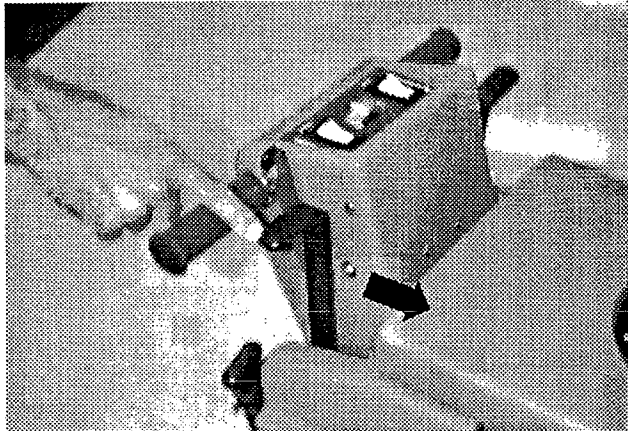

FIG. 14
6. Push solution flow lever slightly forward to activate solution flow. The further the lever is pushed forward the more solution will flow. Push completely forward for maximum flow. Solution will immediately begin to flow once lever is activated. *(Figure 14)*